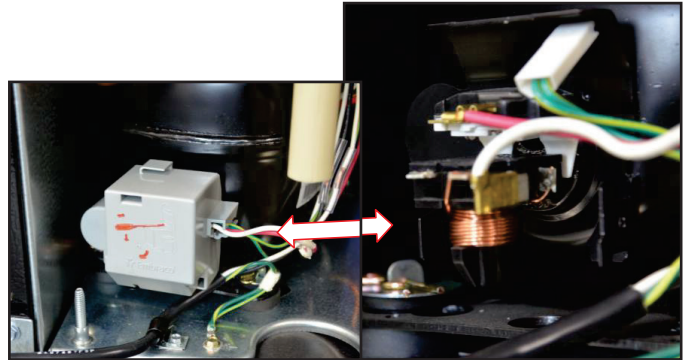

FIGURE 28
3. Compressor terminal cover pops off – instructions on cover. See *Figure 28*.